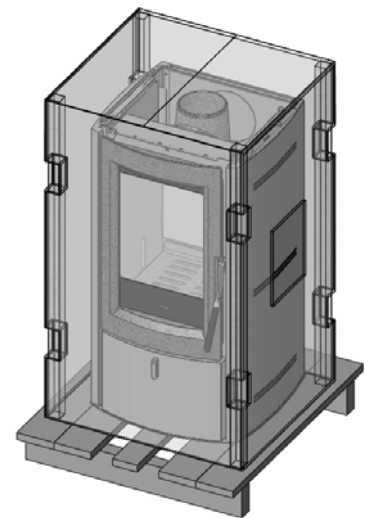

Figure 1 - Nogal stove packaging
- one contains the stove with the sides assembled (figure 1)